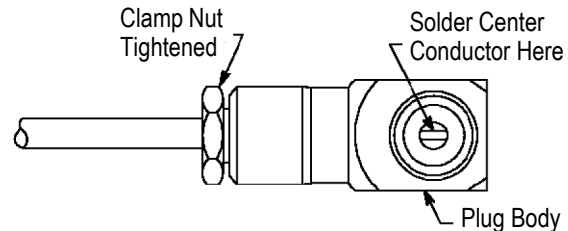

Figure 2
2. Fold back the cable braid to expose the dielectric. See Figure 2, Detail A.
3. Slide the sleeve onto the cable dielectric and over the braid. Trim excess braid. Cut the dielectric to expose the center conductor to the dimension shown in Figure 2, Detail B.
5. Press the assembly into the plug body. Engage the clamp nut, and tighten to a torque of 15 in-lb. Solder the center conductor through the slot of the center contact. See Figure 2, Detail C.